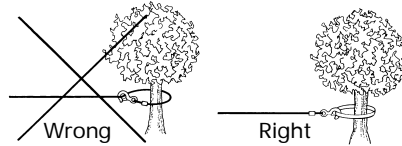

Figure 4
9. NEVER HOOK THE WIRE ROPE BACK ONTO ITSELF. Use a nylon sling (Superwinch Part Nos. 2531 or 1509). Hooking the wire rope onto itself can damage the rope (Figure 4).